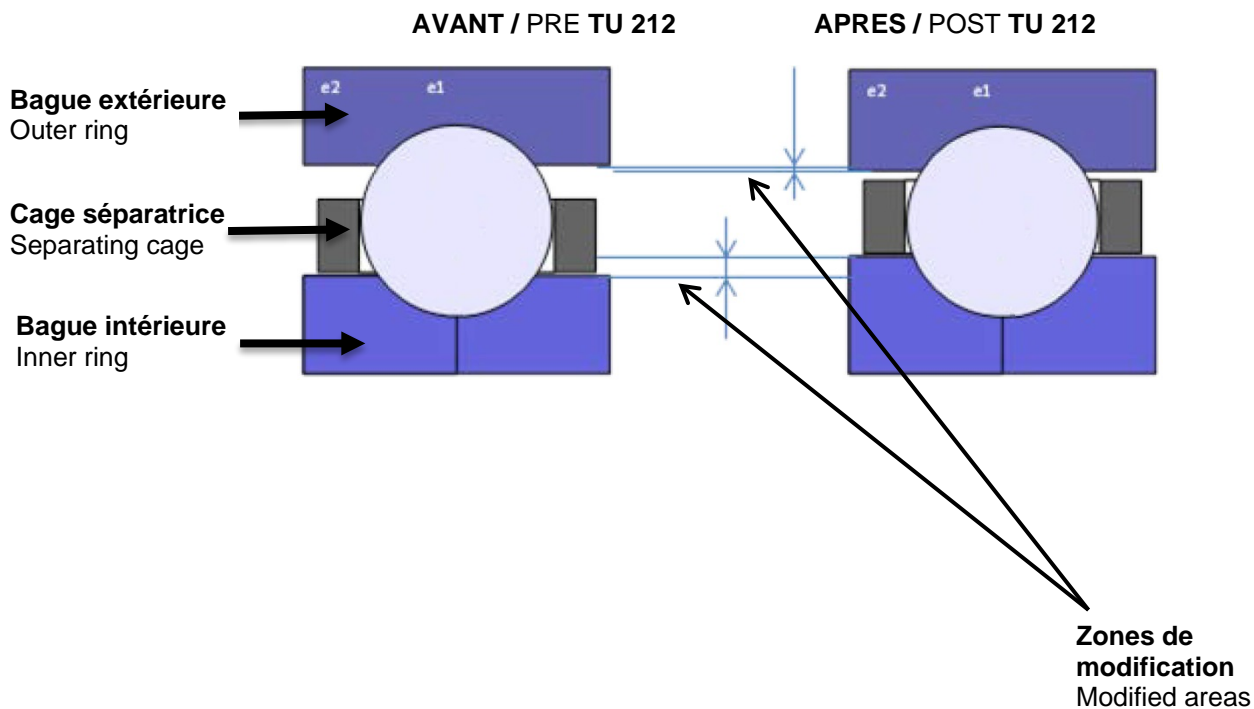

Figure 1
1.3. Description (see Figure 1)